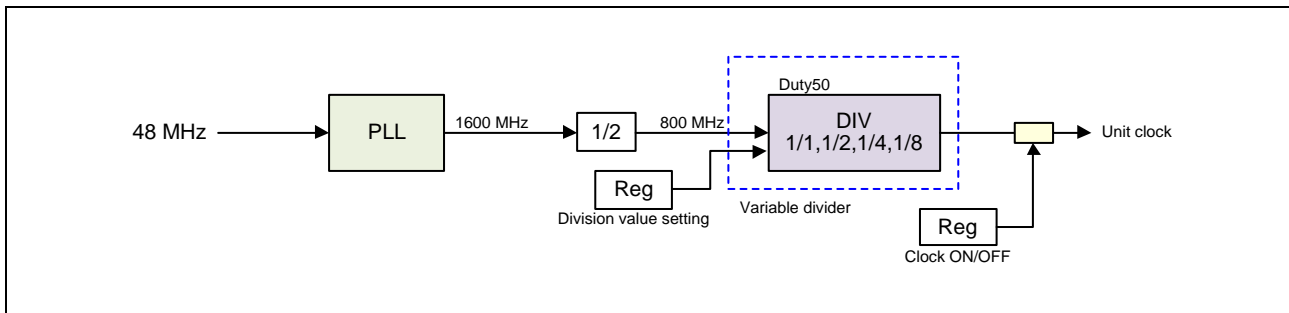
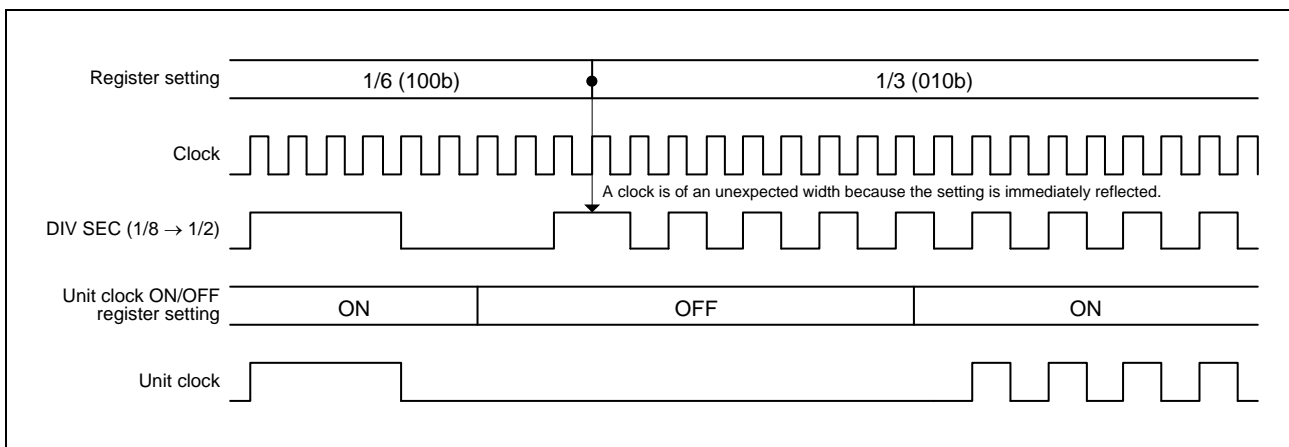

Figure 34.6-15 Schematic View of the Allocation of the Static Switching Variable Divider
Figure 34.6-16 Timing Chart of Clock Switching of the Static Switching Variable Divider
**Figure 34.6-15** is a schematic view of the allocation of the divider and **Figure 34.6-16** shows the timing chart.